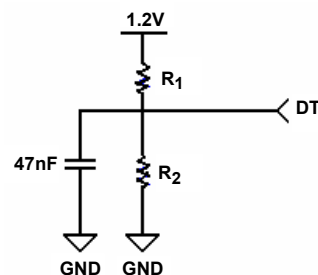
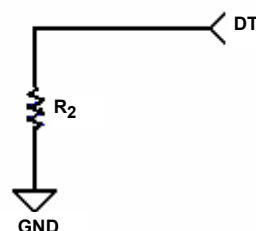

FIGURE 33A.
FIGURE 33B.
The QLX4600-S30 is capable of maintaining periods of line silence on any of its four channels by monitoring each channel for Loss Of Signal (LOS) conditions and subsequently muting the outputs of a respective channel when such a condition is detected. A reference current applied to the Detection Threshold (DT) pin is used to set the LOS threshold of the internal signal detection circuitry. Current control on the DT pin is done via one or two external resistors. Nominally, both a pull-up and pull-down resistor are tied to the DT pin (Figure 33A), but if adequate control of the supply voltage is maintained to within  $\pm 3\%$  of 1.2V, then a simple pull-down resistor is adequate (as in Figure 33B). Resistors used should be at least 1/16W, with  $\pm 1\%$  precision.
The internal bias point of the DT pin, nominally 1.05V, is used in conjunction with the voltage divider ( $R_1$  and  $R_2$ ) shown in Figure 33A to set the reference current on the DT pin.
For channels exhibiting more than 25dB of total loss (this includes cable or FR-4 loss) the DT pin should be configured for a reference sink current (coming out of the DT pin) of approximately 2 $\mu$ A. A typical configuration for a 2 $\mu$ A sink current is given in Figure 33C. If the configuration in Figure 33B is utilized, a 525k $\Omega$  resistor would be used.